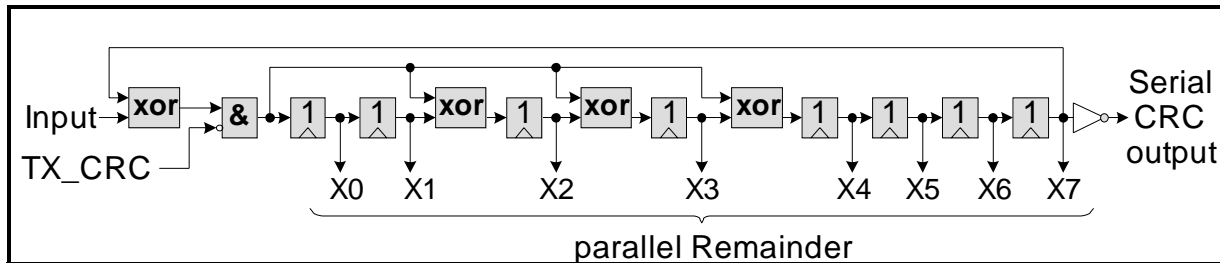

Figure 13 Fast CRC polynomial division circuit
- Generator Polynom: $X^8+X^4+X^3+X^2+1$, for the CRC generation the fast CRC generation circuit is used. (See **Figure 13**)
Figure 13 shows the fast CRC Polynom.